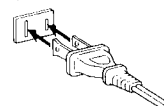

Fig. 1
- 8) AC power cord (For U.S.A. version only) The AC power cord of this unit has certain one-way direction connections to prevent electric shock. Refer to the illustration for correct connection. (Fig. 1)